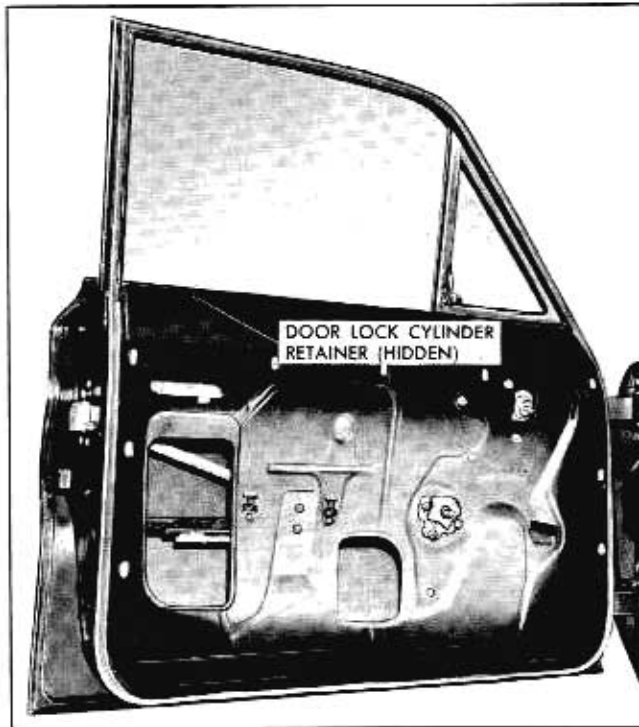

Fig. 10A-31 Door Lock Cylinder Attachment
4. Remove door lock attaching screws and remove lock assembly through inner panel access hole (Fig. 10A-30).